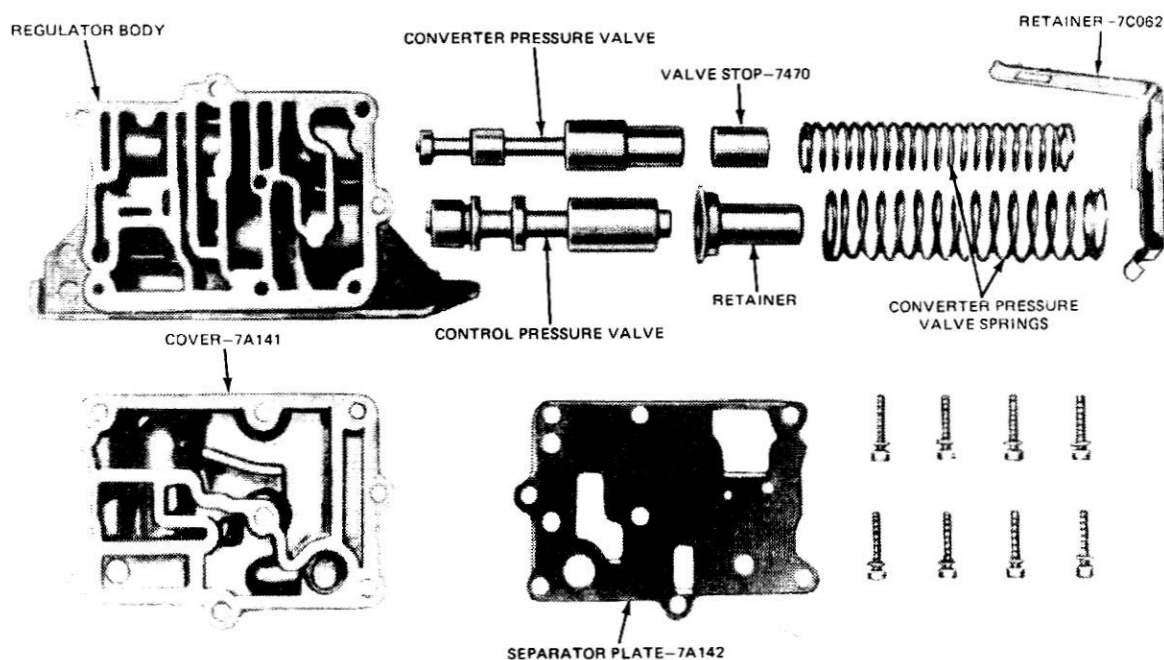

FIG. 31 Pressure Regulator Disassembled
2. Remove the regulator body cover attaching screws, and remove the cover (Fig. 31).
3. Insert the valves in the pressure regulator body (Fig. 31).